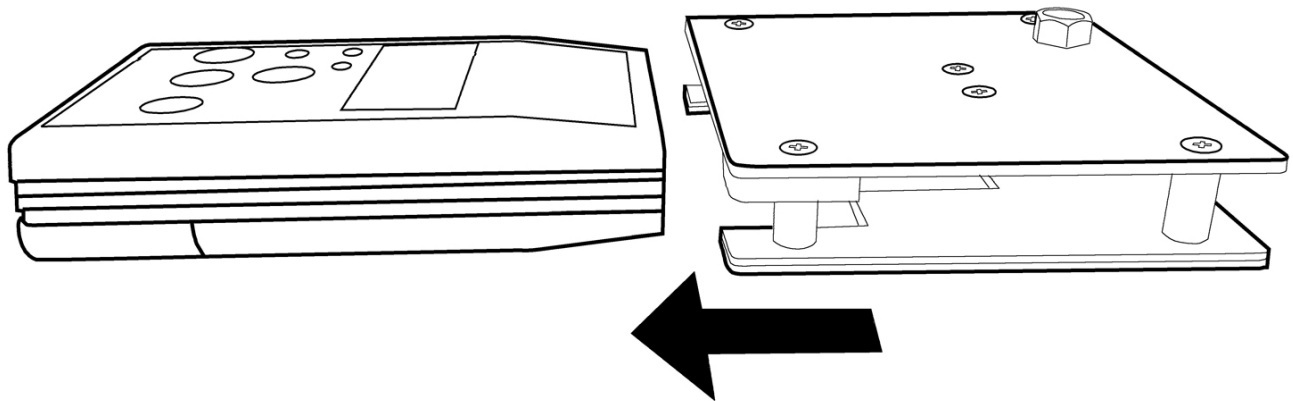

Figure 4. Sliding the CPM-720B onto the PFM-711B
- 5. With the PFM-711B Field Meter controls and the CPM-720B sensing plate facing up (the lower plate has a cutout for the meter), carefully slide the CPM-720B's lower ground plate into the lower mounting grooves molded into the sides of the PFM-711B's case (Figure 4).